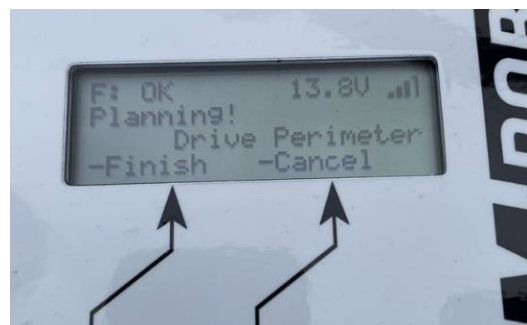

Figure 25
3. Press the green button. The LCD display now says "Planning!" (Figure 25).